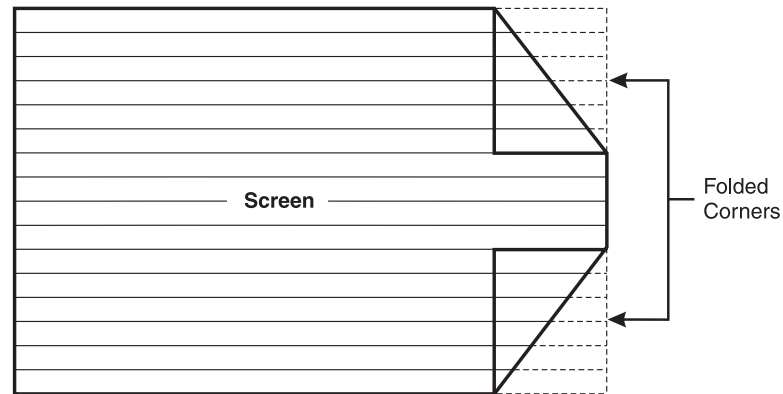

Figure 17. Screen Folding Diagram
- 8 Fold each corner at a 45° angle to the center of the screen. See Figure 17 on page 37.